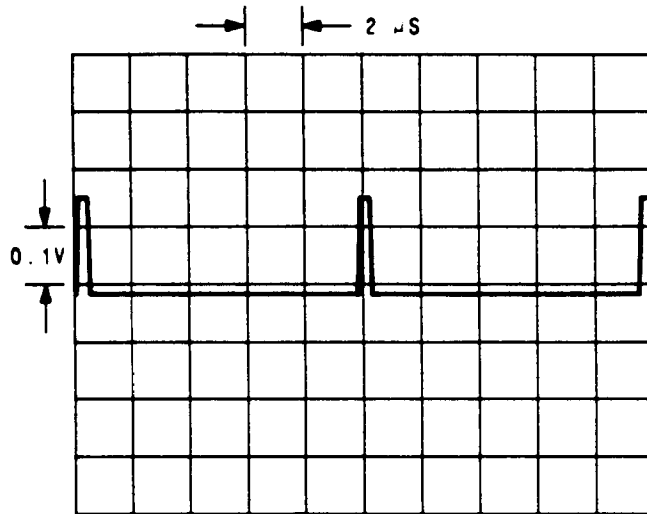

**Figure 8.** Oscilloscope Display of TP22, Sample and Hold Pulse, W6 removed, Signal Generator's frequency is 960 MHz, Low Frequency Loop is unlocked.
3. If +5V is not present at TP23, check the Sample and Hold pulse at TP22 (SAMPLE). Verify that the waveform in Figure 8 is correct. (The VCO frequency with W6 removed and the Signal Generator's frequency will affect the time between pulses.)